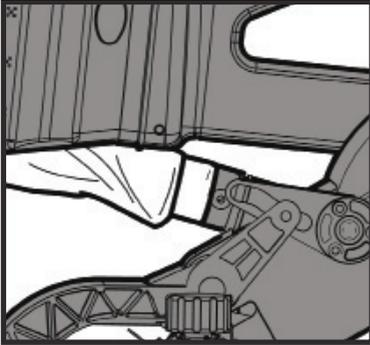

Fig 7
1. Slide the frame of the collection bag on to the outlet of the extraction port, ensuring that it is firmly connected. (Fig 7)